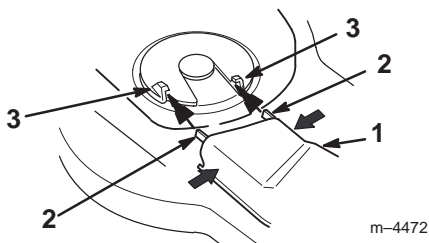

Figure 17
5. Replace the belt cover by squeezing the sides together and inserting the tabs on the belt cover into the brackets on the engine base (Fig. 17).